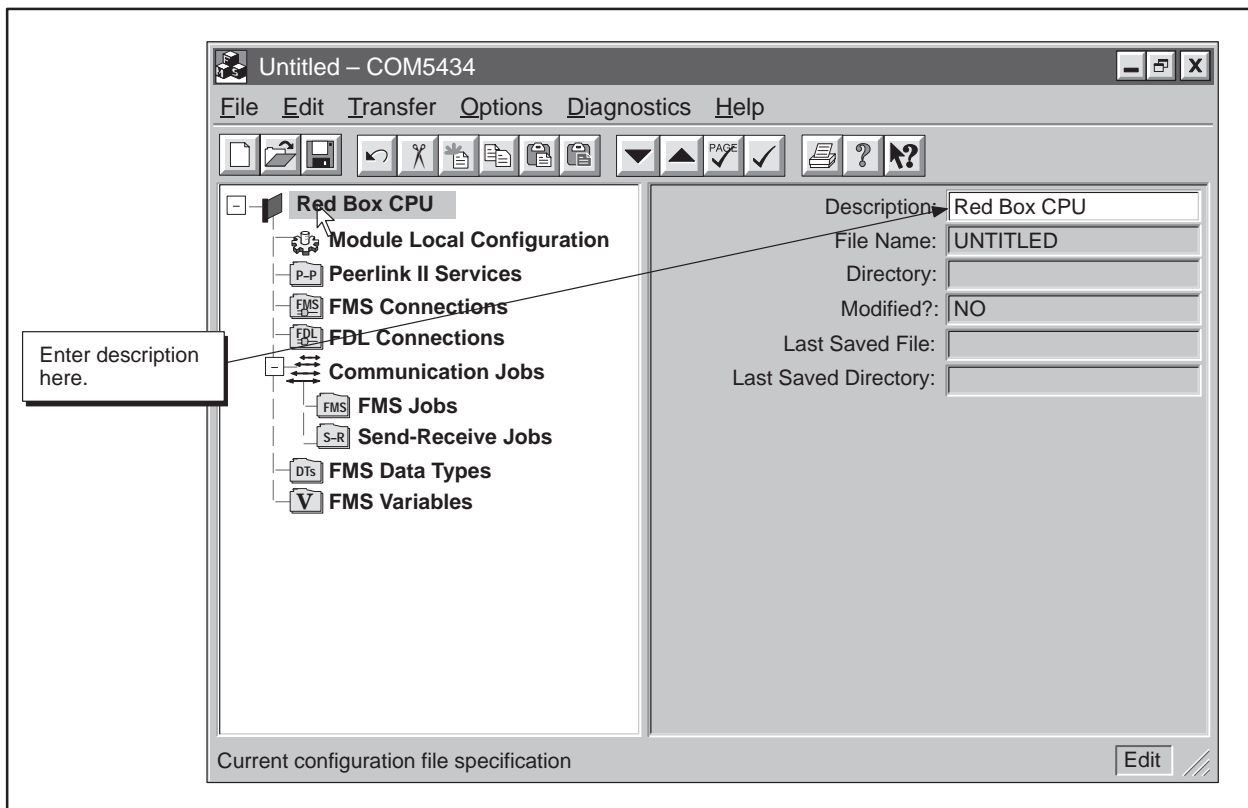

Figure 6-25 Creating a Configuration File for Station 5 Example
2. Enter a description for this file in the Description field, as shown below (and in Figure 6-25):